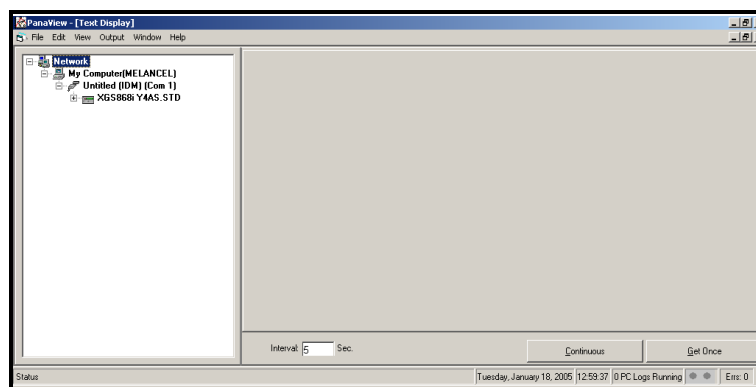

Figure 3: The Text Display Window
3. Using the *Window* menu, arrange the open windows in the desired format. For this discussion, Figure 3 shows the *Text Display* window in its maximized (full-screen) size.
Note: Figure 3 has been compressed both vertically and horizontally for improved clarity.
5. Before actual data values can be displayed in the text pane, activate one of the following data collection modes (see Figure 3 on page 45):